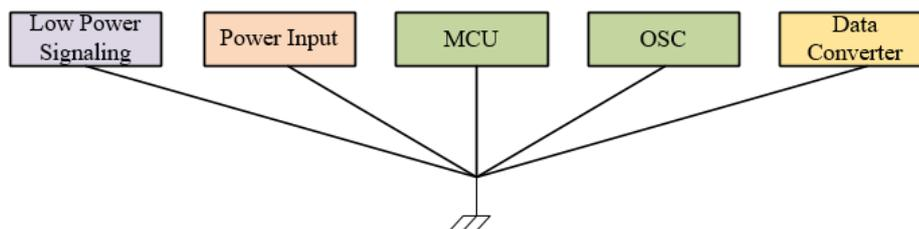

Figure 1. Single point return path example
- Figure 1 shows a single point return path that is found on low-cost designs, is focused on DC power up to a few megahertz, after which the impedance brought on the by length of the wires causes appreciable voltage drops between connections; or